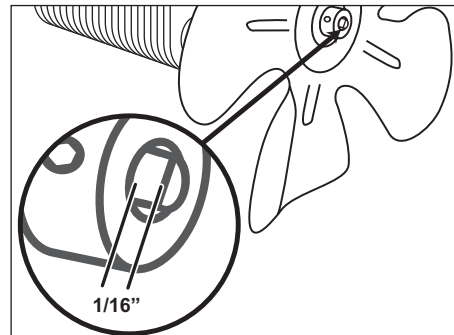

Figure 5
11. Reattach fan blade by placing it on the motor shaft leaving approximately 1/16" at end of shaft (Figure 5). Securely tighten set-screw with Allen wrench at flat of motor shaft.